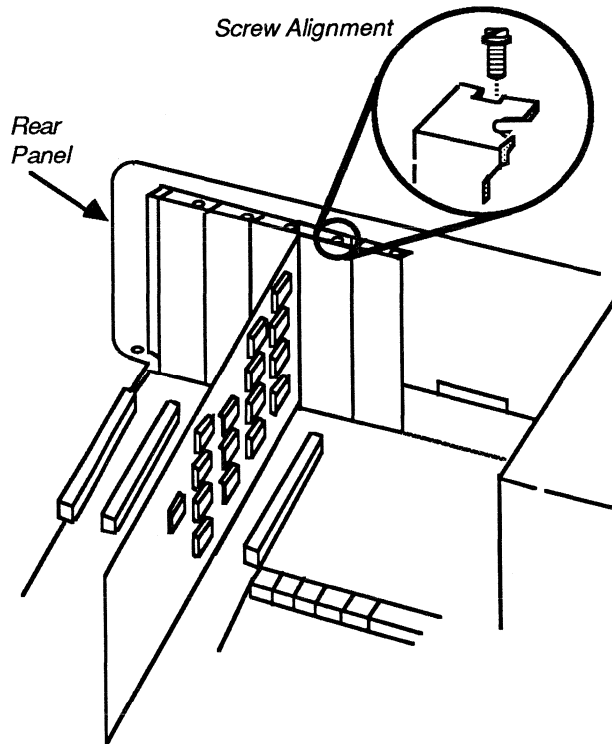

Figure 1-7. Locking the Board in Place
6. Insert the card into the expansion slot using the card guide; then lock the board in place by fastening the retaining bracket with the screw from the slot cover. See Figure 1-7.